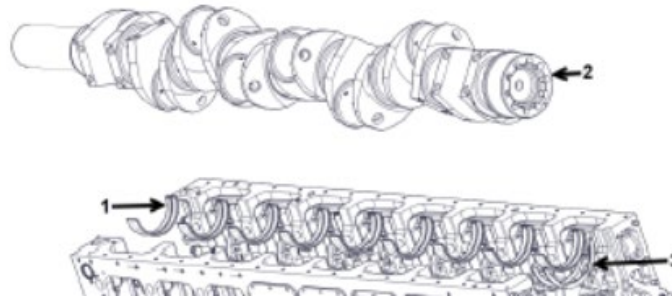

Figure 105.
3. Reinstall new main bearing (Figure 105, Item 1) and thrust plate (Figure 105, Item 3) in the cylinder block and main bearing caps.
5. With proper hoisting assistance place the crankshaft (Figure 105, Item 2) into the engine.